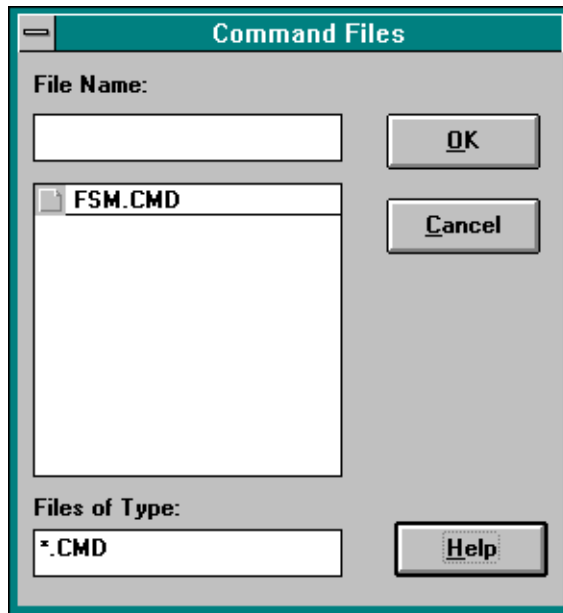

Figure 2-14 Command Files Browser
4. Select the **PROsim** button in PROflow. The Functional Simulation dialog box appears as in Figure 2-14: